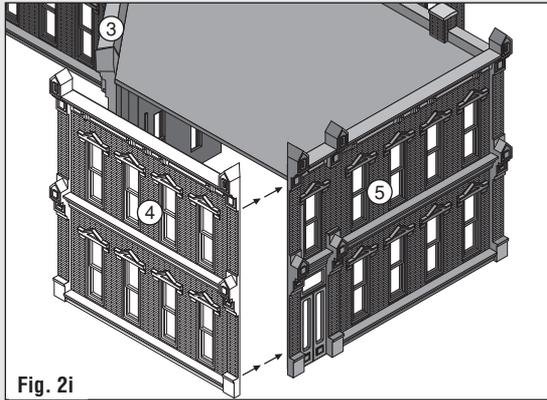

Fig. 2i
- Align Wall ④ between Wall ③ and ⑤ and glue in place (Fig. 2i).